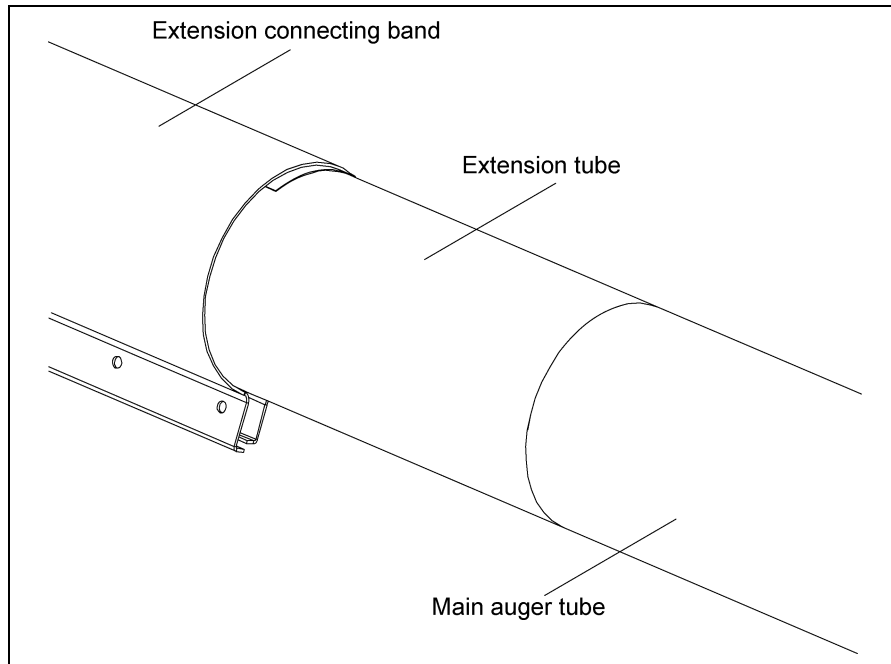

Figure 4N
3. Slide the extension tube over the extension flight, making sure the tube is pressed securely against the main auger tube. (See Figure 4N.)